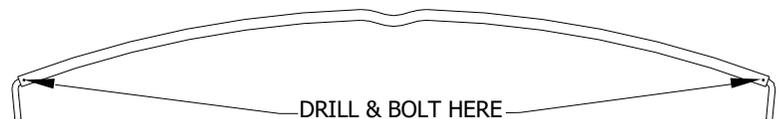

Figure 8
Procedure: Hoops (J) are provided according to the length of the trailer. Equally space the hoop holders (G) along the length of the trailer and locate the top edge of the hoop holder 1inch down from the top edge of the inside trailer wall. Once in place mark the position of the hoop holder and drill two 3/16" holes into the trailer wall. Secure the hoop holder using the 1/4"x1" lag screws provided. Follow this procedure to the remaining hoop holders making sure that they are at the same level, equally spaced, and directly across from each other. Insert bent angle (K) with one end fitted into the hoop holder (G) and the other end in the hoop (J), then repeat for the opposite side of the trailer. Measure the vertical distance from the inside of the trailer floor to the top center of the front or rear hood. Record the measured distance. Center the hoop on the bent angles (K) and measure the vertical distance from the inside trailer floor to the top center of the hoop. The measurement to the top of the hoop should be 3/4 inch greater than the distance from the trailer floor to the top of either hood. If the distance is less than or greater than the required 3/4 inch, adjust the hoop and bent angles accordingly. Drill and bolt the hoop to the bent angles using 1/4x1-3/4 inch bolts provided making sure that the hoop is parallel with the bent angles (see Figure 8).